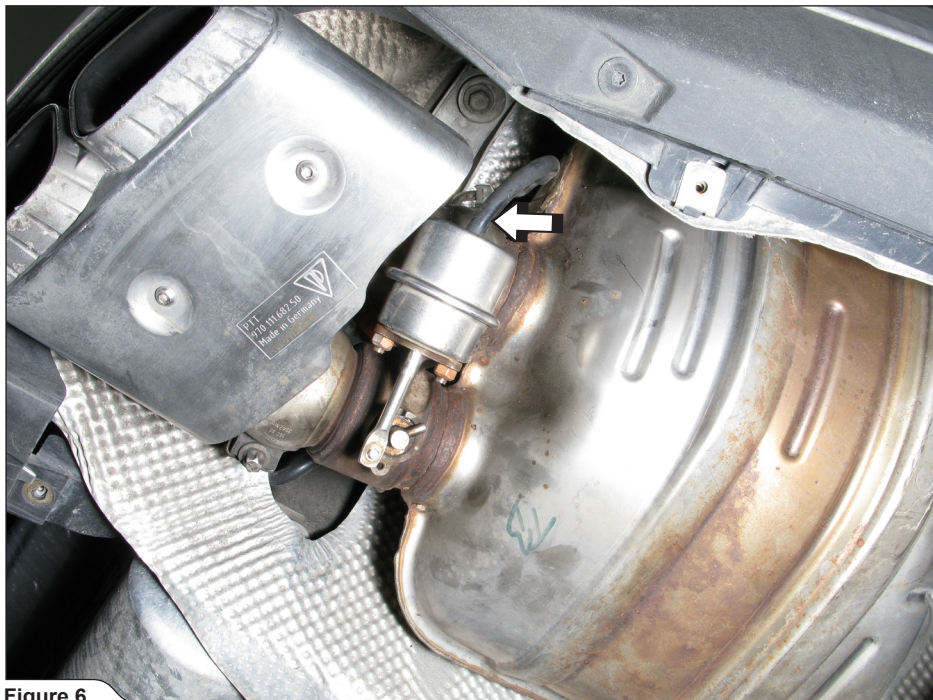

Figure 6
4. **For vehicle models equipped with original exhaust system flaps only:** pull the vacuum hoses off the vacuum actuators on both sides of the vehicle (Figure 6).